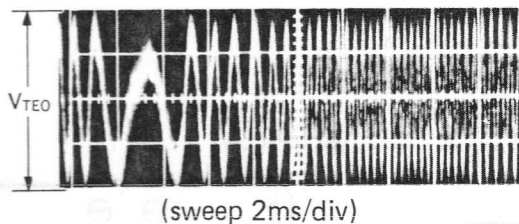

Fig. 13 With CN204 removed
- Step 4 Read the waveform voltage (P-P) on the oscilloscope. This voltage is described as V_{TEO} [V]. (Ref, Fig. 13)